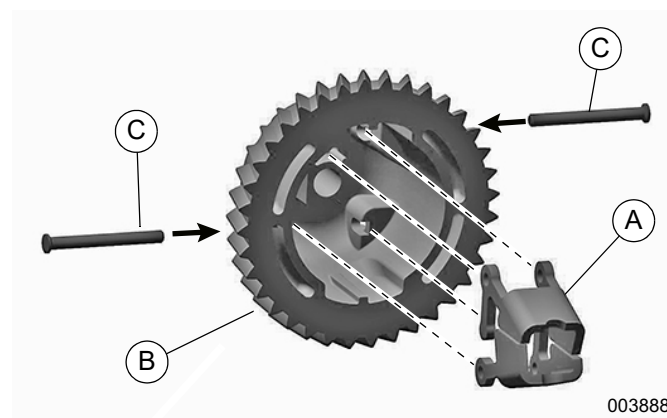

Figure 14-32. Governor Gear Assembly
- See Figure 14-32. Build governor gear assembly by installing the two flyweights (A) in governor gear (B). Retain each flyweight by inserting a flyweight pin (C) through holes in gear and base of flyweights.